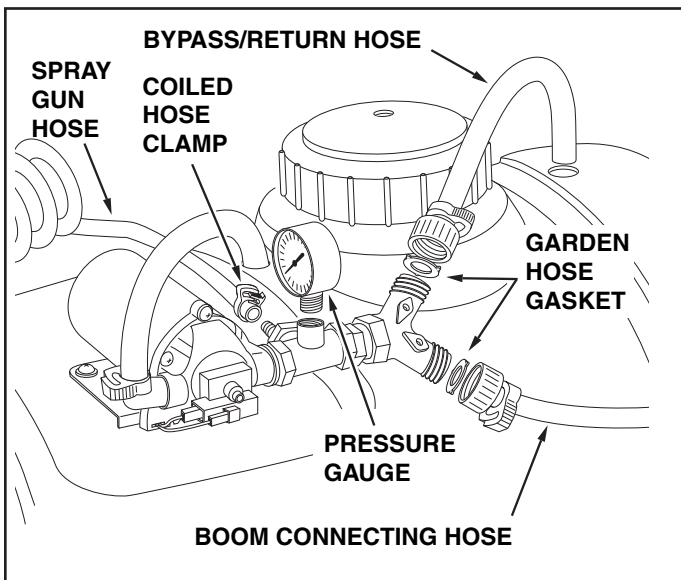

FIGURE 8
12. Insert a garden hose gasket into the swivel nut on the bypass/return hose. Screw the nut onto the upper outlet of the "Y" valve fitting. Place the other end of the hose down through the hole at the rear of the tank. See figure 8.
13. Insert a garden hose gasket into the swivel nut on the boom connecting hose. Screw the nut onto the lower outlet of the "Y" valve fitting. See figure 8.
14. Slide the coiled hose clamp onto the spray gun hose. Push the hose onto the hose adapter on the side of the "T" fitting as shown in figure 8. Tighten the clamp around the hose and the adapter. Snap the spray gun into the clips on the side of the tank.
15. Carefully screw the pressure gauge into the top of the "T" fitting. See figure 8.